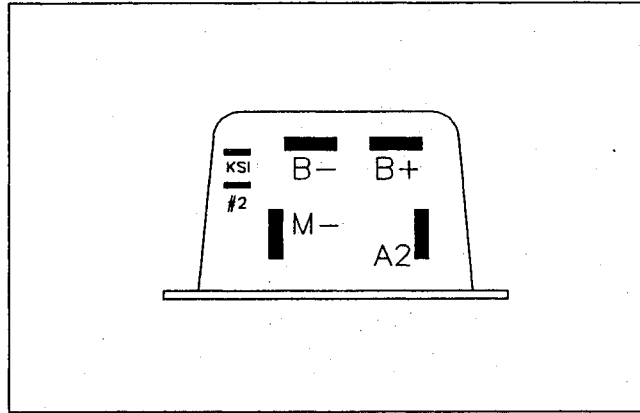

Figure 3-18
- a) Test voltage at PIN #2 on the PMC (see figure 3-18). If not 6-6.5 V, then go to 'ACCELERATOR MODULE' section.